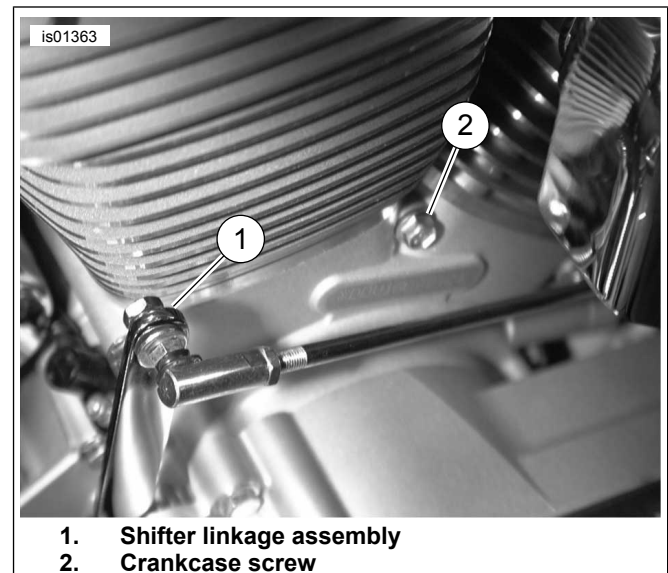
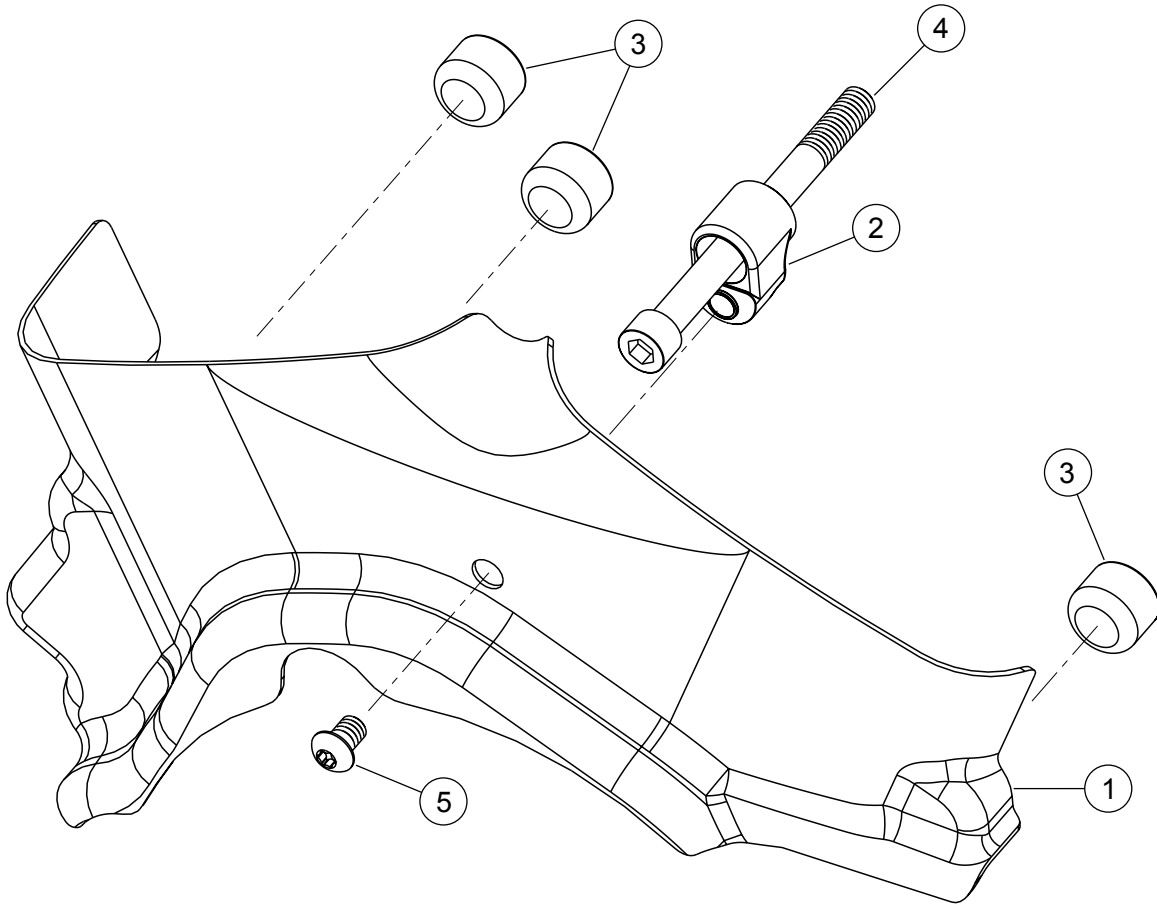

Figure 1. Disassemble shifter linkage and remove crankcase screw
Figure 2. Service Parts: Cylinder Base Cover Kit
See Figure 2 and Table 1.
1. See Figure 1. Disassemble shifter linkage assembly (1). Refer to the applicable Service Manual for the proper disassembly procedure.
2. Remove the 5/16 inch crankcase screw (2) centered between the cylinders as shown. Discard screw.
3. See Figure 2. Obtain the cylinder base cover spacer (2) and 5/16-18 socket head cap screw (4) from kit.
6. Obtain the cylinder base cover (1) from kit.
9. Obtain rubber caps (3) from kit.
11. Install the cylinder base cover using 1/4-20 x 3/8 inch button head cap screw (5). Tighten to 80-100 in-lbs (9.0-11.0 Nm).
12. See Figure 1. Reassemble the shifter linkage assembly (1). Refer to the applicable Service Manual for the proper assembly procedure.